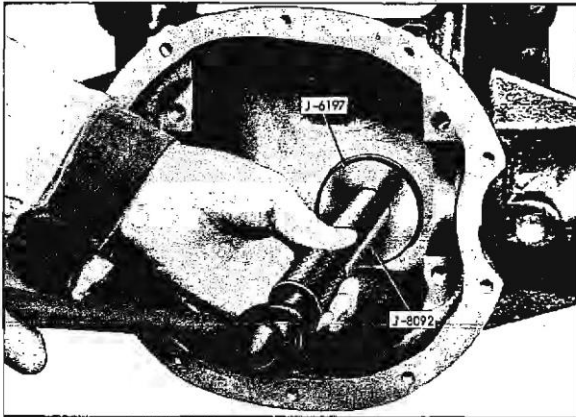

Fig. 4-33 Installing Rear Pinion Bearing Outer Race
1. If replacing rear pinion bearing, install new outer race using installer J-6197 with driver handle J-8092 (Fig. 4-33).